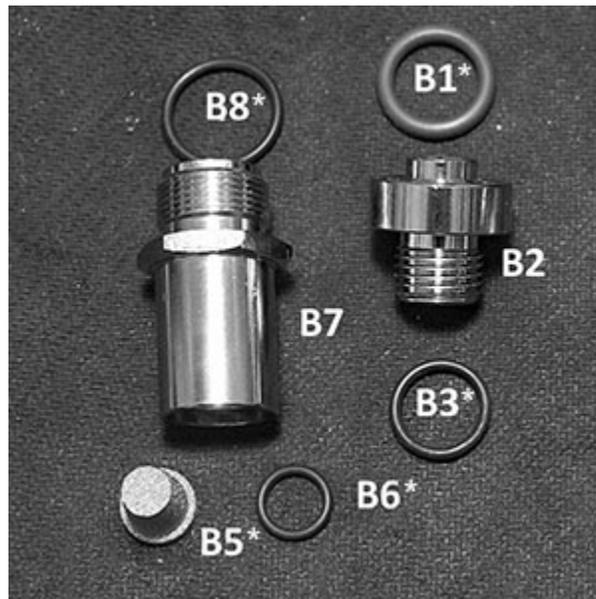

Fig. 10
5. Remove the O-ring (B8\*) from the DIN Housing, the DIN Retainer O-rings (B1\*, B3\*), and remove the DIN Filter and its O-ring (B6\*) from the DIN Housing - Fig. 10.